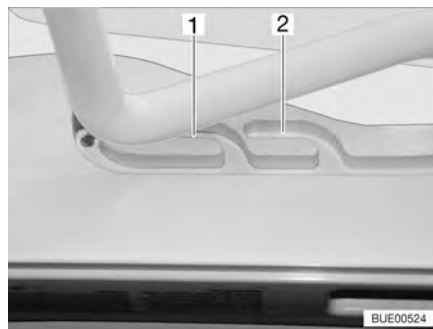

Fig. 29 Guide (ventilation position)
The hinged skylight can be put in two ventilation positions: Bad weather position (Fig. 29,1) and central position (Fig. 29,2).
- Push the bar slightly upwards and into the selected guide (Fig. 29,1 or 2).